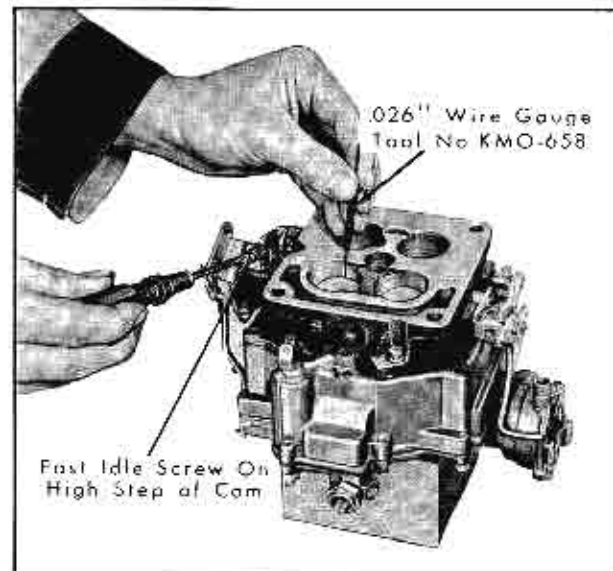

Fig. 12-20 Fast Idle Adjustment
3. Adjust fast idle screw to obtain a clearance of .026" between the throttle valves and the primary bore of the throttle body on the side opposite the idle adjusting needles, Fig. 12-20. Measure the throttle opening with Tool No. KMO-658.